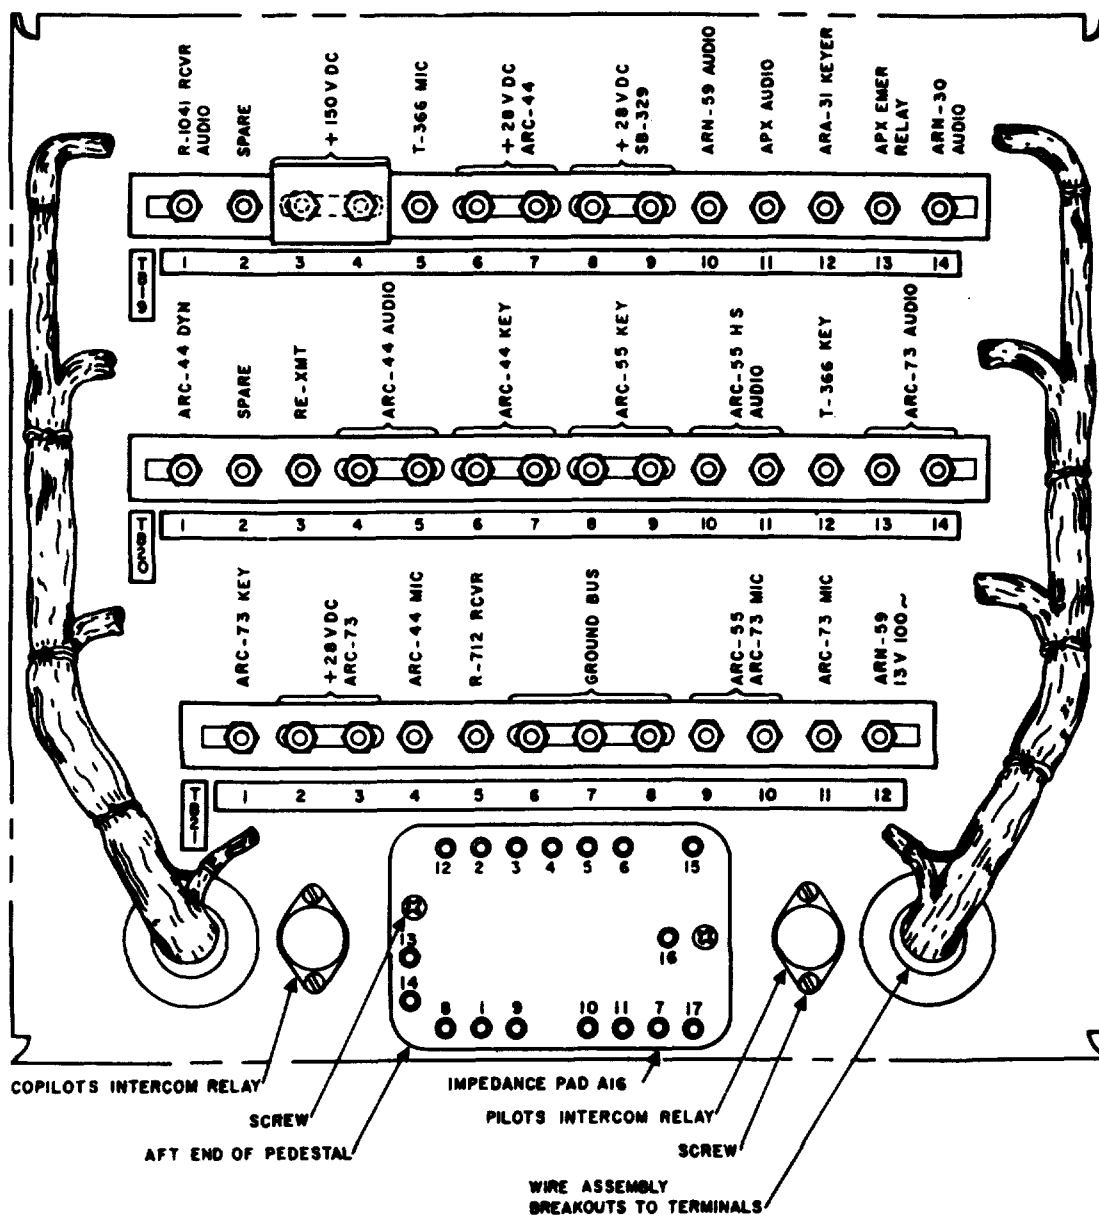

Figure 1-2. Communications junction box parts layout (configurations A and B).
b. *Relays, Intercommunication System* (figs. 1-2 through 1-5).